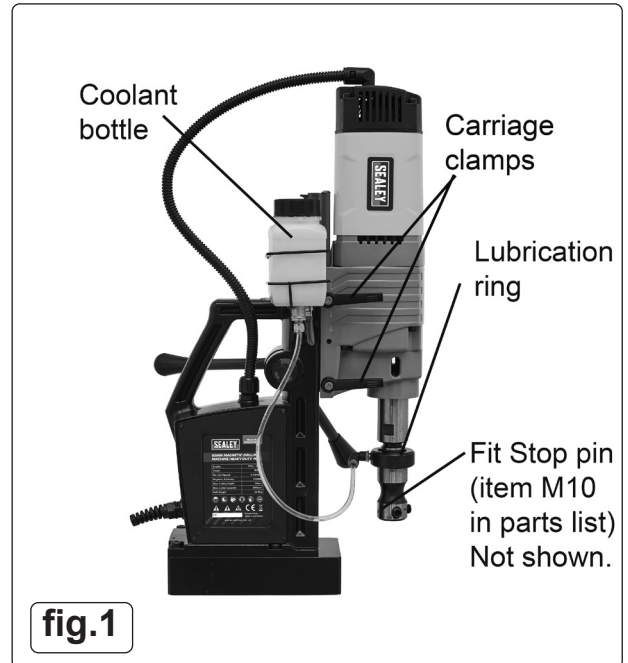

fig.1
- 4.1. **FIT COOLANT BOTTLE** (fig.1)
- 4.2.1. Connect coolant pipe to the valve on the lubrication ring (fig.1). Pipe can be released by pushing in the blue valve.
- 4.2.3. Screw rotation stop pin (not shown fig.1) to lubrication ring to limit rotation of hose.
5.8.1. Turn on the cooling tank tap (fig.1).